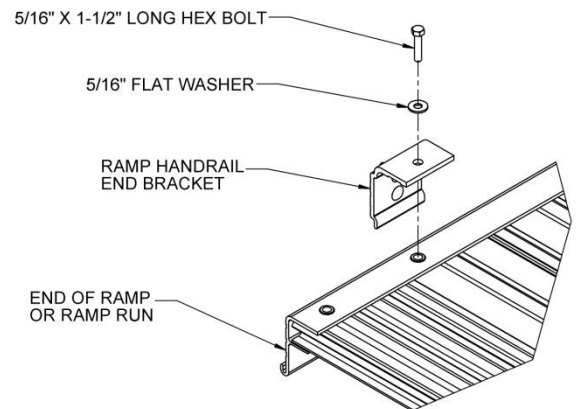

FIG. 3.2
- 3.1.8. Locate MRHBPR (RAMP HANDRAIL END BRACKET PAIR). Install four end brackets (these will be used to attach handrails in a later step). Use one end bracket at each outside corner of the ramp section using one 5/16" x 1-1/2" bolt and washer into the threaded insert second from the end of the ramp (FIG. 3.2).